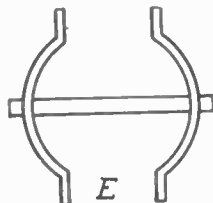

Fig. 9. Brackets for holding the armature; the cross lines indicate the armature shaft, the brackets spanning the ends of the armature bore.
The brackets for holding the armature in the machine should be made of brass, and are shown in detail at (E), Fig. 9. They should be screwed to the pole pieces.